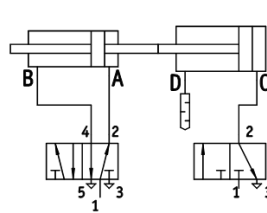

fig 5
Compressed air connection, fig 5, 6
1. Remove threaded stopper M5 (1) on cylinder (2) and refit on parallel connection.
3. Connect pneumatic hoses as per diagram; fig 5.